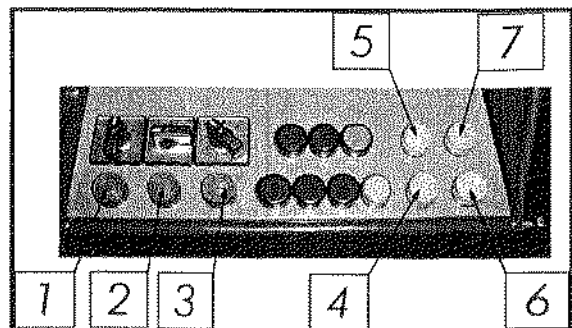

Figure 7-8. Push-buttons
7.4.3 Push-buttons (figure 7-8)